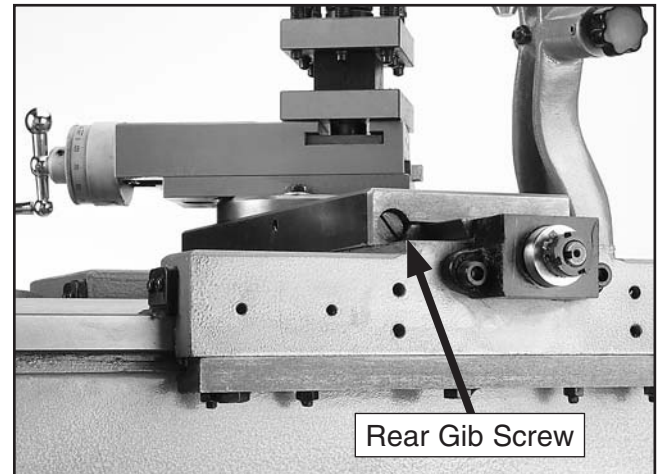

Figure 85. Rear cross feed gib screw.
1. Loosen the rear gib screw approximately one turn (see **Figure 85**).